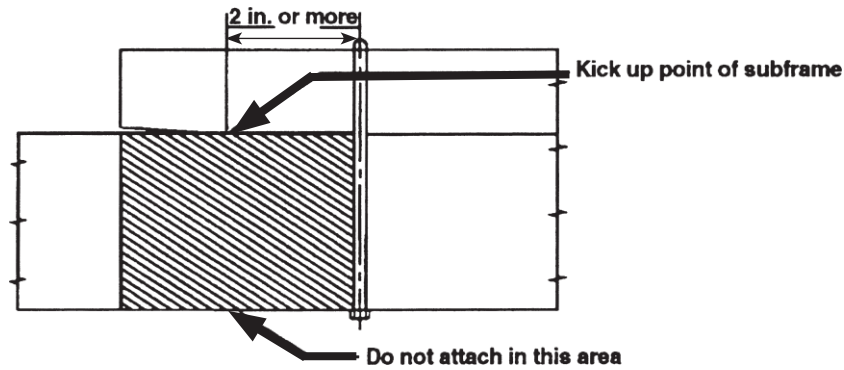

Figure 15
1. At the front end of the subframe. The attaching bolt or bracket must be at least 2 inches behind the kick up point of the subframe (Figure 15).